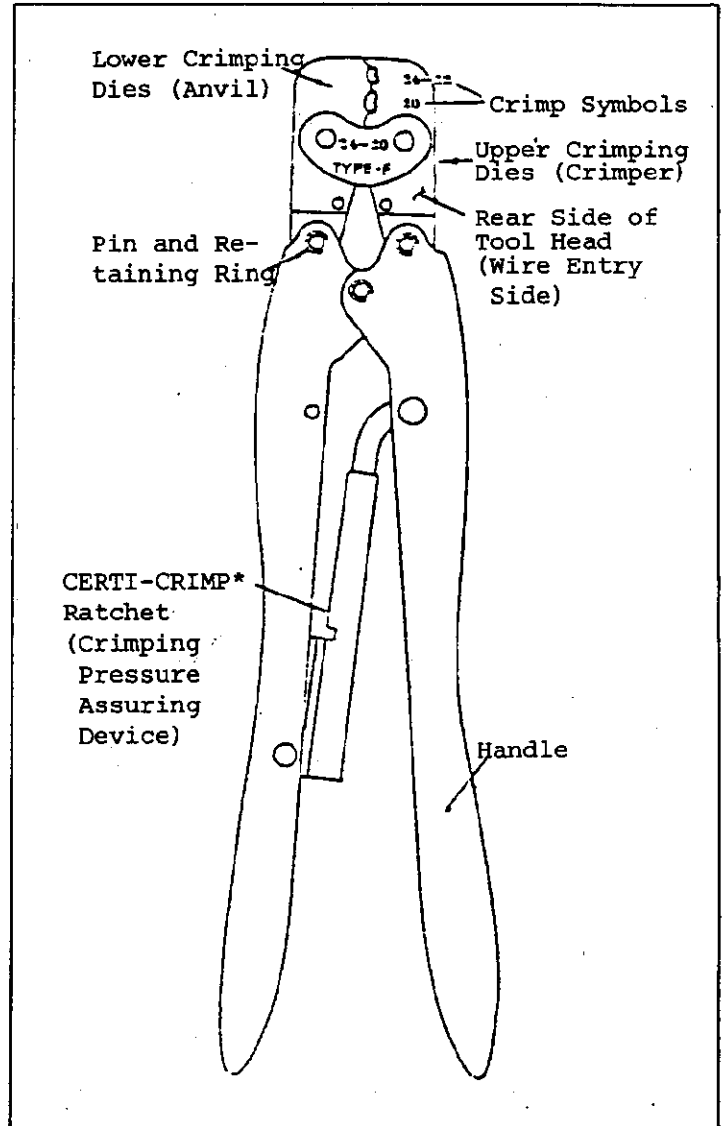

Fig. 1
- c) Inside the tool head, two sets of crimping dies are provided, where crimp symbols (24-22 or 20) are marked on to indicate proper selection of dies. (See Fig. 1.)